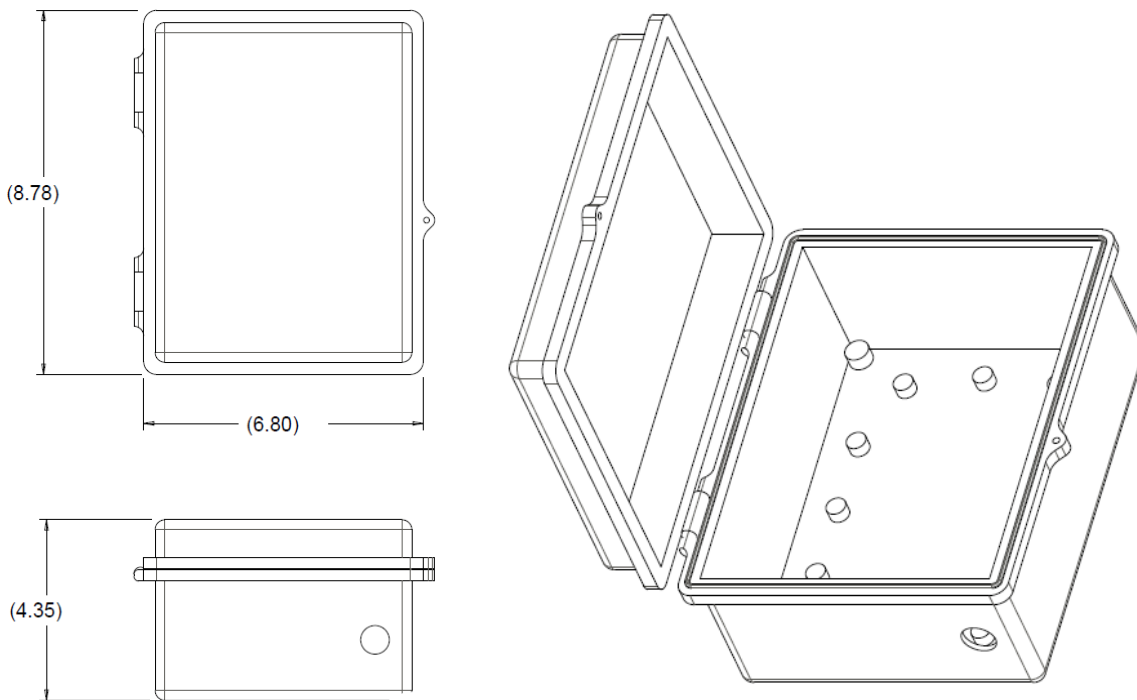

Figure 2 - RDU Enclosure
5.1.2. Make cable-entry holes using a hole saw or punch, keeping in mind the installation environment for this unit. The cable-entry holes can be made in the bottom of the junction box or the lower part of the side walls. Refer to Figure 2 to determine